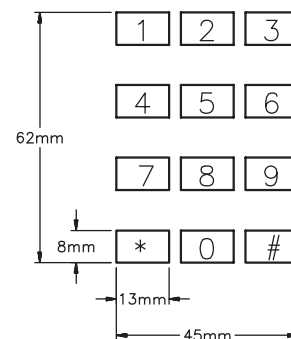

Fig. 17-10
2. Draw the dialpad for a pushbutton telephone. Create one of the pushbuttons and use the **ARRAY** command to create the rest. Each pushbutton is a 13 mm × 8 mm rectangle, and the buttons are arranged as shown in Fig. 17-10. What should you enter for the space between rows and spaces between columns?